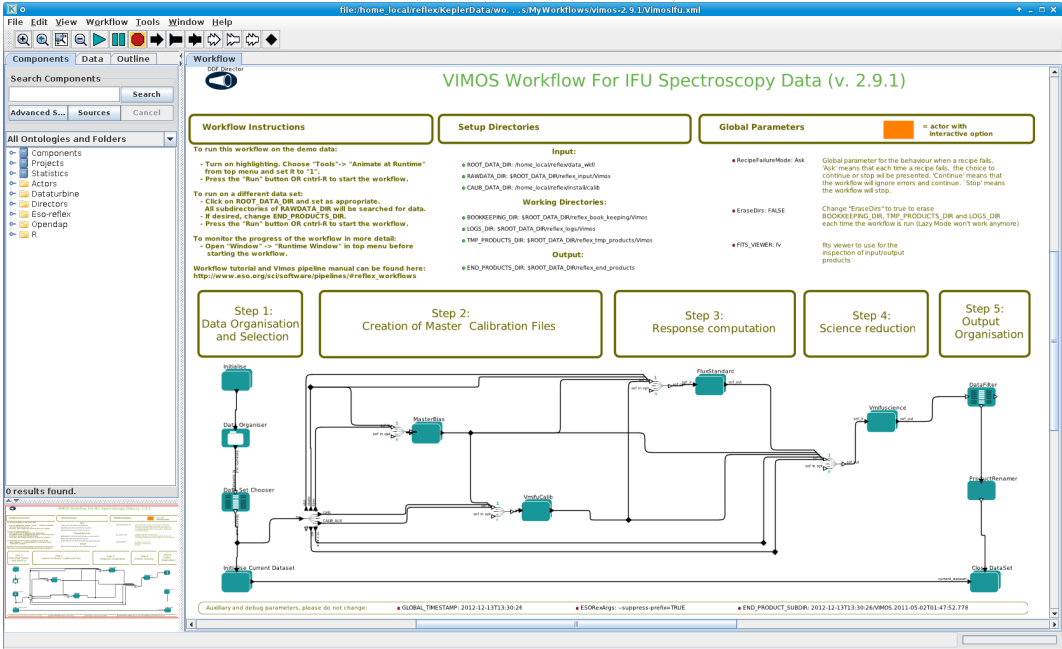

Figure 4.2: *VIMOS/IFU workflow general layout.*
2. Now open the VIMOS workflow by clicking on File -> Open File, selecting first vimos-3.0.2 and then the file VimosIfu.xml in the file browser. You will be presented with the workflow canvas shown in Figure 4.2. Note that the workflow will appear as a canvas in a new window.